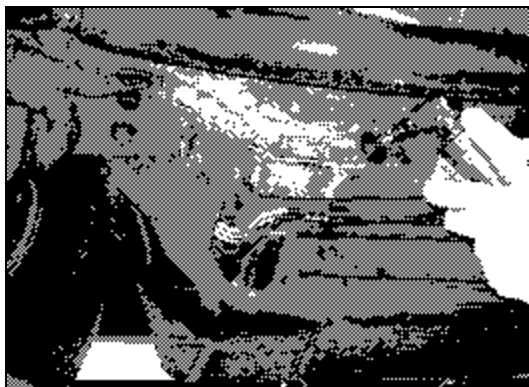

Fig. 1
4. Using the subframe connectors as a guide, mark where there needs to be welding on the floor pan and using the angle grinder / sander, clean the area to be welded. The cleaner the area where the weld is to be, the better and stronger the weld will be (see Figure 1).